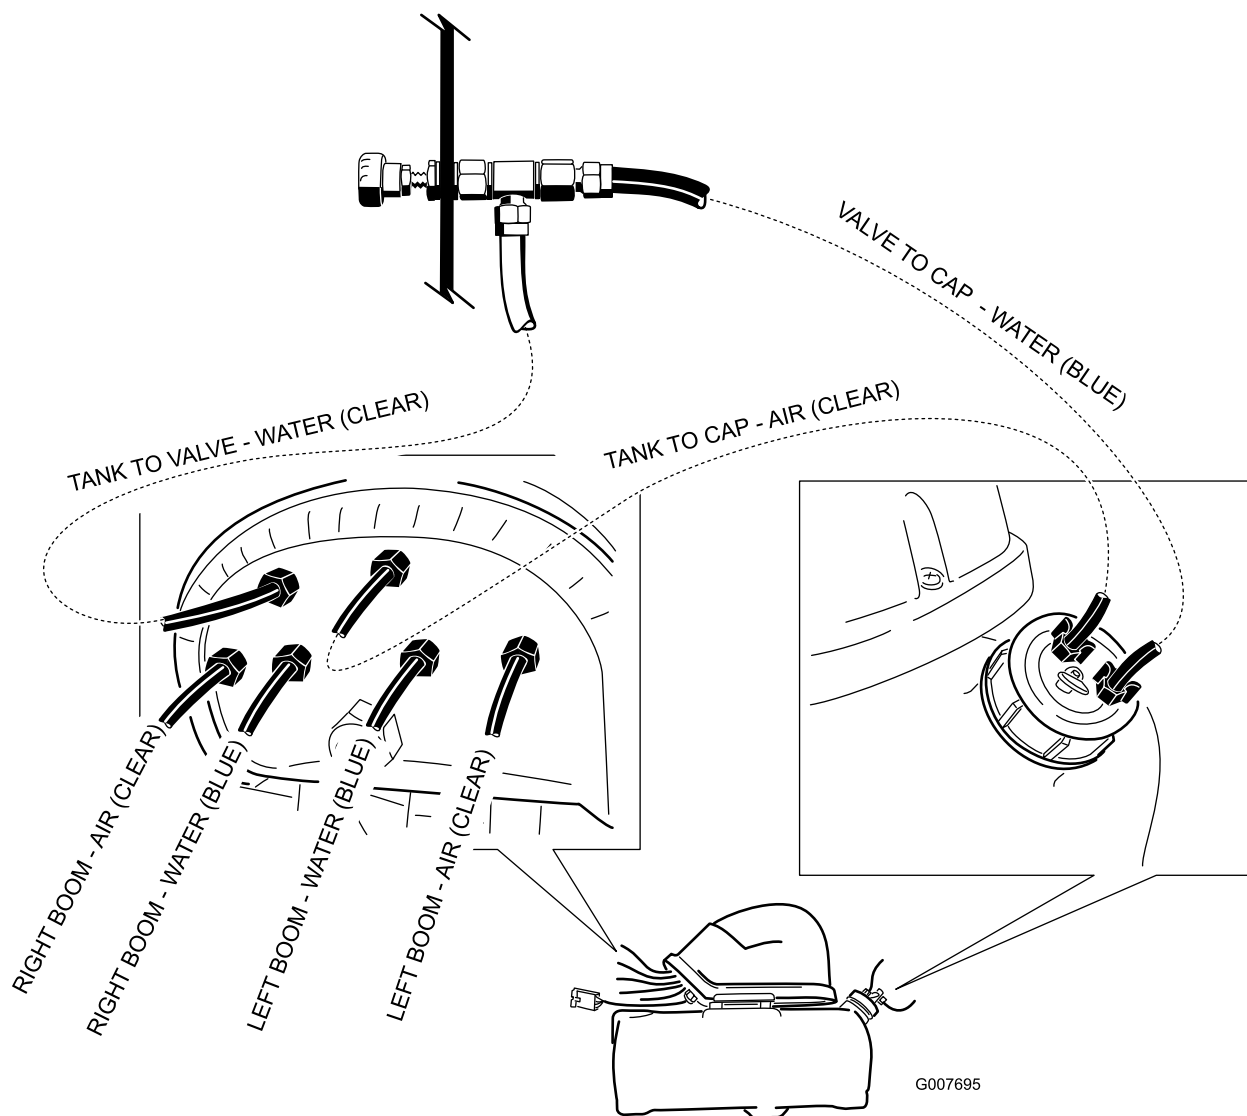

Figure 23
3. The final routing should be as shown in Figure 23.